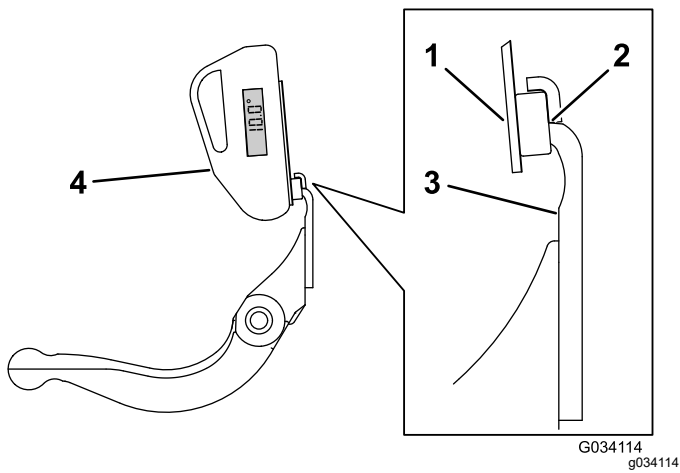

Figure 36
3. Place the angle-indicator mount on the edge of the bedknife so that the edge of the magnet is mated with the edge of the bedknife (Figure 36).
4. Place the angle indicator on the mount as shown in Figure 36.